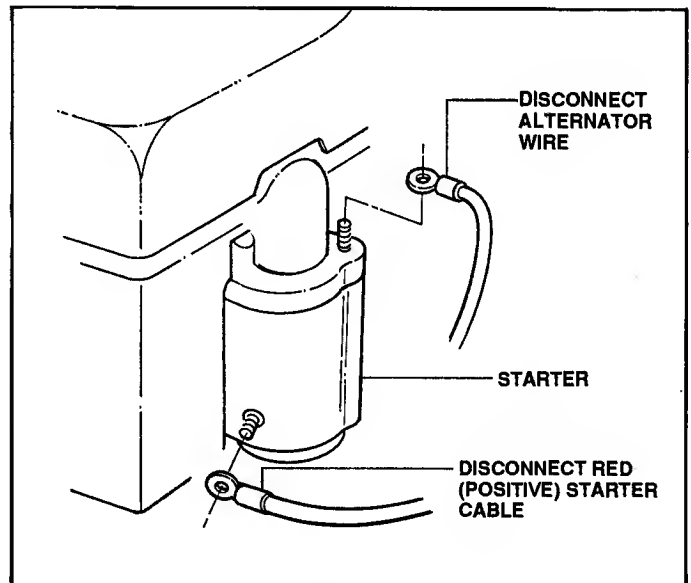

FIGURE 7.6
8. Disconnect the red (positive) cable from the base of the starter. See Figure 7.6.